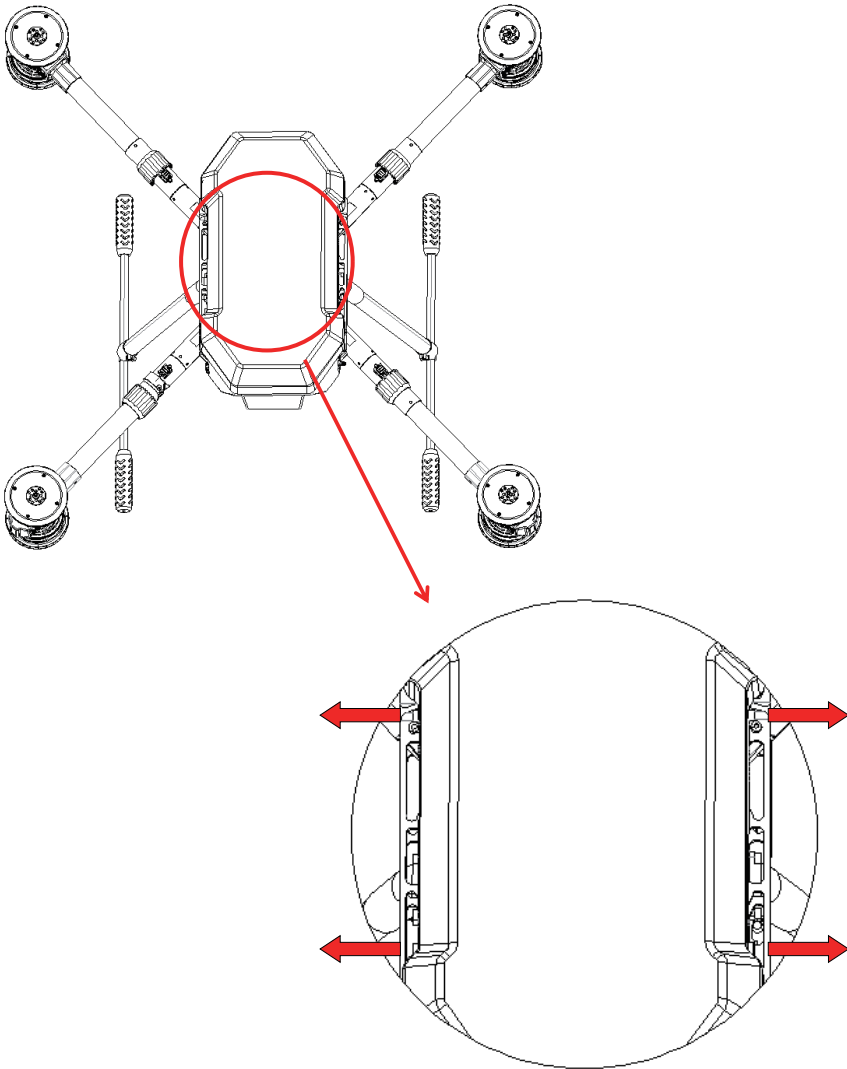

Figure 7 (Remove The Cover)
1. Remove the upper cover of the frame (Figure 7)